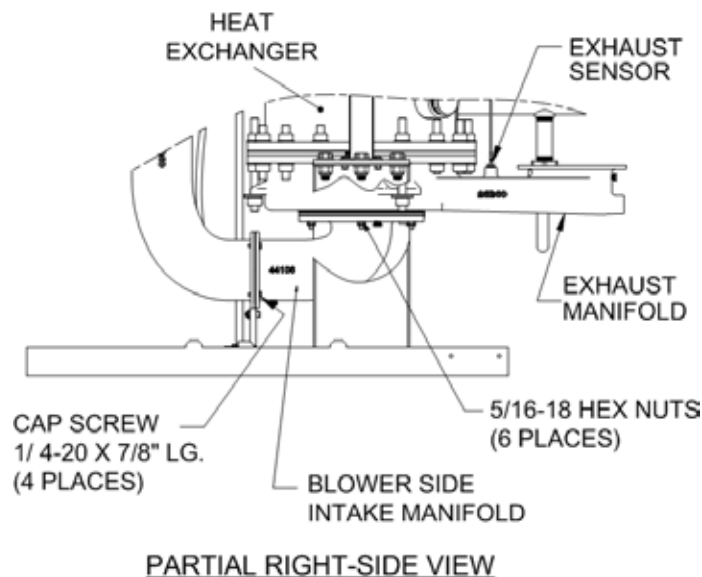

Figure 6-3. Blower-Side Intake Manifold & Exhaust Manifold Locations
10. Refer to Figure 6-3. Loosen and remove the four (4) 1/4-20 cap screws securing the blower side of the intake manifold (44106). DO NOT REMOVE the two 1/4-20 screws and nuts securing the manifold support bracket.
11. While supporting the blower-side intake manifold, loosen and remove the six (6) 5/16-18 hex nuts securing it to the studs protruding from the exhaust manifold.
12. Carefully lower and remove the blower side intake manifold (44106), burner assembly (46023), burner gasket (18899) and fiber frax gasket (124749) from the unit. See Figures 6-3 and 6-4.
13. Disconnect the exhaust temperature sensor (Figure 6-3) by unscrewing it from the exhaust manifold.